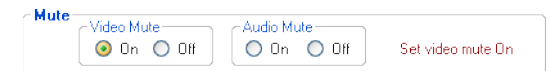

Figure 3-5 — Alternate Mute area indication
*If your computer is connected to either of the DA's serial ports, **and** the Optical 2 cable is not connected between the master receiver and the DA in your system, you **can** still mute the outputs in the control program's Mute area, but the program **cannot** report the position values. The Set video (or audio) mute On or Off message is displayed for approximately 1 second (figure 3-5).*